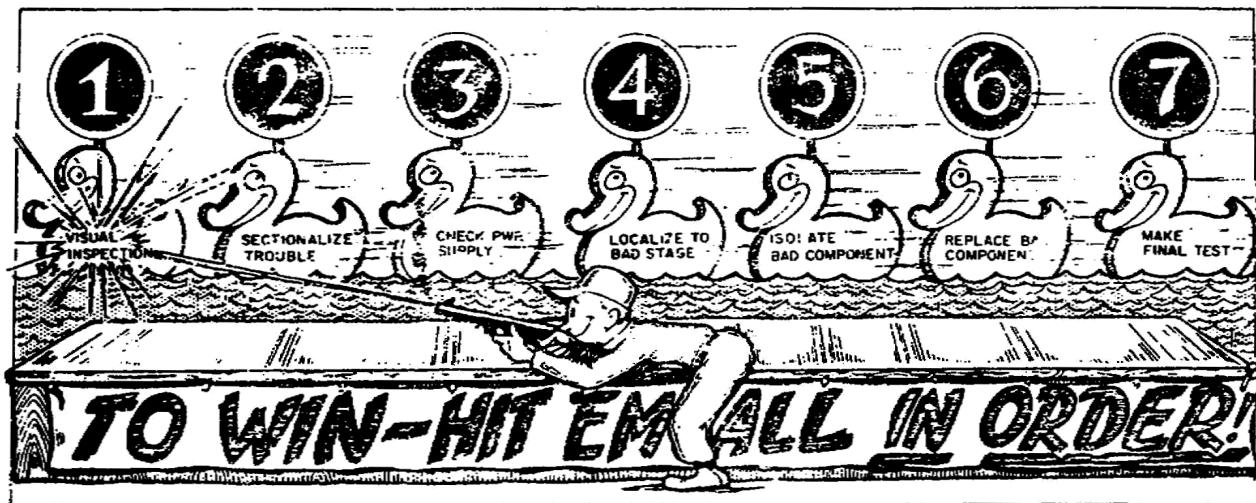

Figure 4. On your way to a perfect score.
b. With the defective set or transmitter and the TM for that equipment in front of you, you're ready to start. The procedure to follow is given in figure 4 and the following steps. The first two steps are used if you have a complete radio set.
- (1) Perform a VISUAL INSPECTION of the complete set.
- (2) SECTIONALIZE the trouble to a unit of the set.
- (3) CHECK the power supply.
- (4) LOCALIZE the defective transmitter stage.
- (5) ISOLATE the faulty component.
- (6) REPLACE the faulty component.
- (7) Make a FINAL TEST.